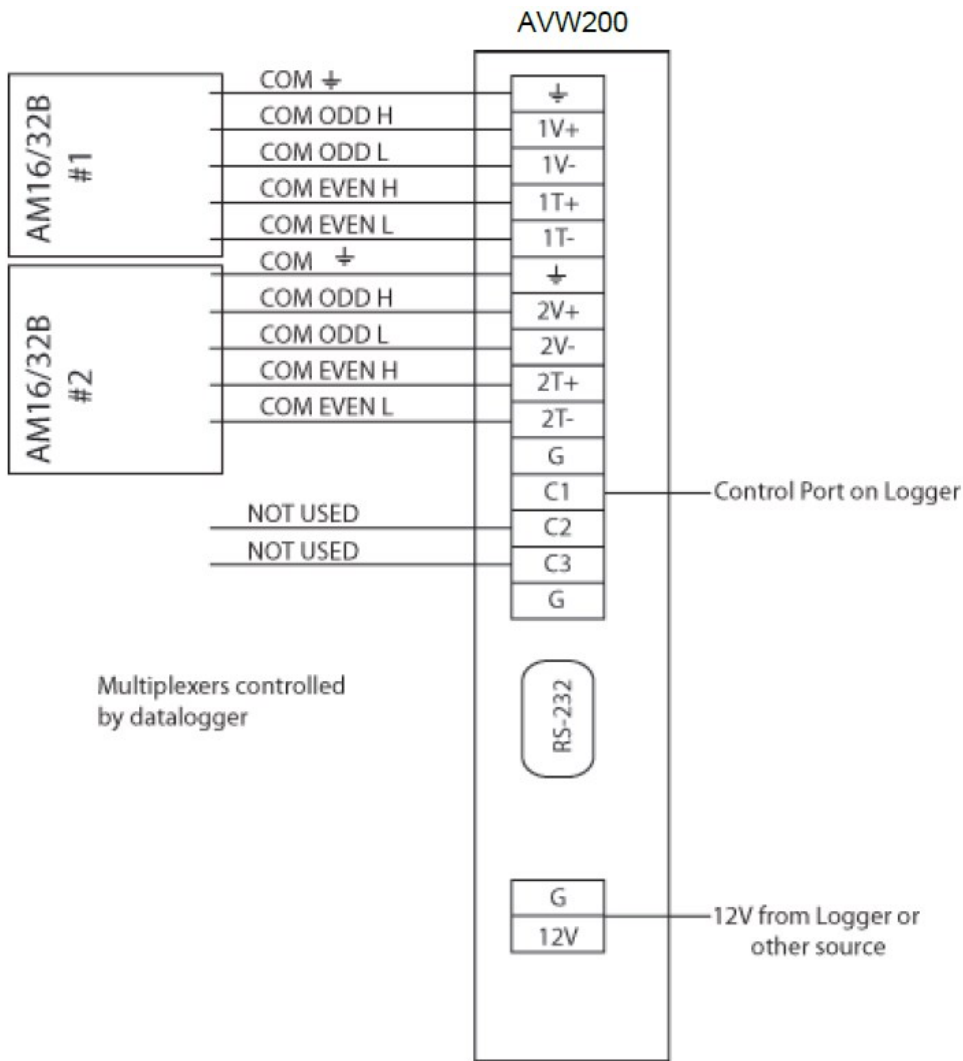

Figure 7-5. AM16/32B to AVW200 hookup (AM16/32Bs controlled by data logger and using SDI-12)
2. Use a CABLE4CBL-L cable to connect the AVW200 to the multiplexers (see Figure 7-5 [p. 31]).
When using SDI-12, the data logger must control the multiplexer. Use a CABLE4CBL-L cable to connect the AVW200 to the multiplexer if the vibrating-wire sensors contain a thermistor (see Figure 7-5 [p. 31]). Use the CABLE3CBL-L or equivalent cable if the vibrating-wire sensors do not contain a thermistor. The **CLK** and **RESET** lines on the multiplexer are used instead of the **CLK** and **RESET** lines on the AVW200.